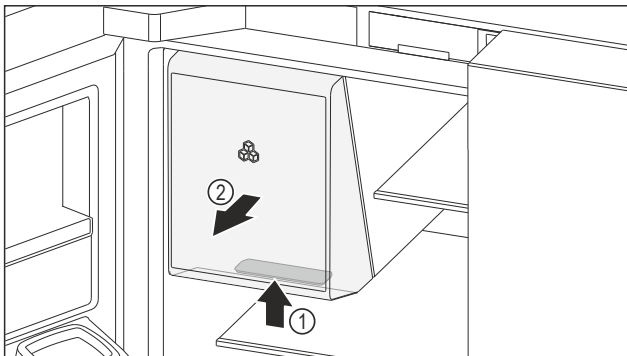

Fig. 157 Removal of ice storage compartment
- Reach the recessed grip Fig. 157 (1) at the bottom of the ice storage compartment and pull out the ice storage compartment forwards at the same time Fig. 157 (2).